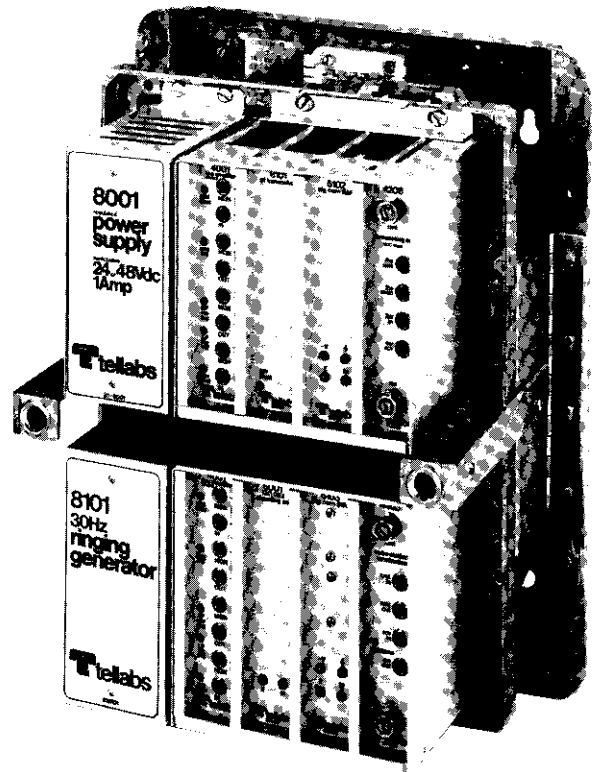

figure 1. Typical 261 System showing 15A Apparatus Case equipped with two circuits
1.01 The Tellabs 261 Signaling and Terminating System (figure 1) is a self-contained, modular System that provides SF or DX signaling over a metallic or carrier-derived transmission facility; termination of the facility; and either E and M, foreign exchange, or ringdown signaling interface toward the terminal equipment. Either 2wire or 4wire terminal equipment may be interfaced. The *standard* 261 System is housed in a prewired Type 15A KTU apparatus case equipped with its own power supply and, optionally, with a ringing generator. The 261 System may also be provided in other types of apparatus cases, or the 261 System modules may be supplied alone for relay rack installation and on-site wiring.